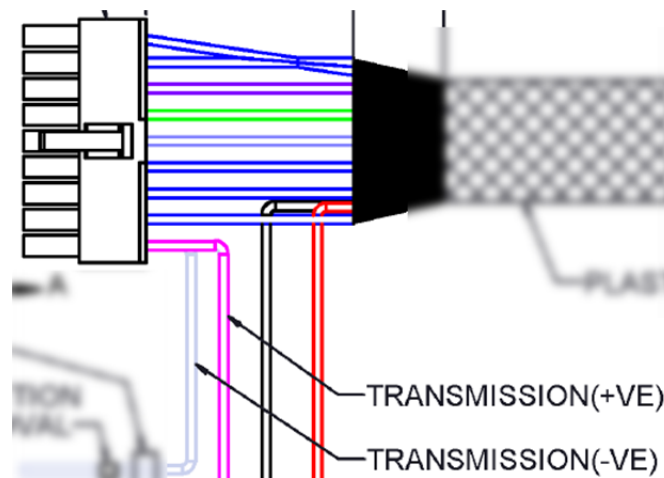

Figure 1: Transmission Line Connection
1. A transmission safety feature is designed into the control module to prevent the memory system from being activated while the vehicle is in motion. This safety feature needs to be connected for proper operation of the six-way memory power unit. The vehicle has a transmission enabled signal line that needs to be connected to the white or pink pigtail wires located at the switch connector of the control module (see Figure 1).